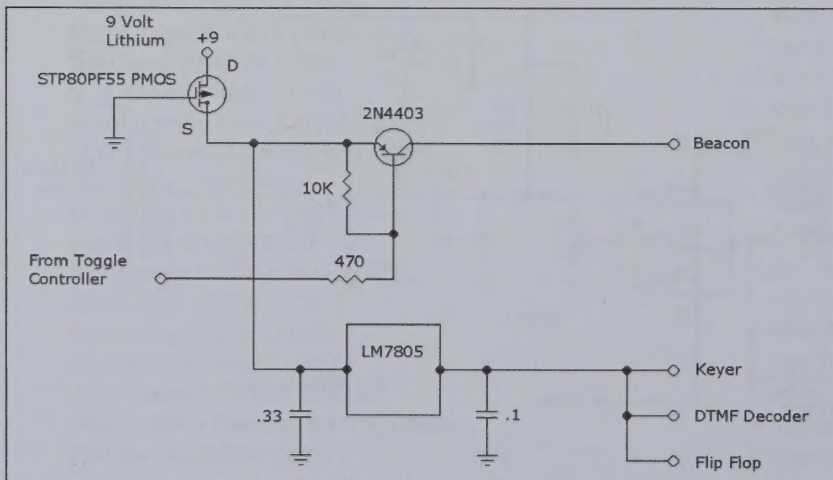
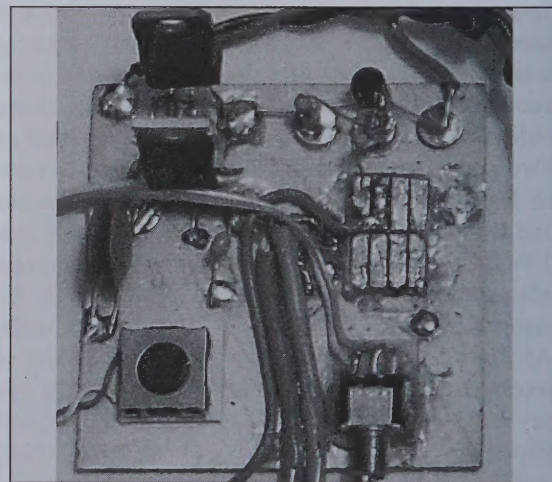

Figure 3—Power supply schematic.
Figure 4—Power supply board.
The power supply board (Figure 4) is uncomplicated but necessary. Figure 3 is the schematic. Notice the reverse voltage protection method. Using a MOSFET to provide reverse voltage protection isn't a new idea. A PMOS device is used here because I had one in the junkie box. An NMOS device could also have been used, provided it is connected backwards (source to +) in order to properly bias its internal diode for this application. The low on resistance of many MOSFETs yields a very low voltage drop, making it much preferred to the often used diode, IMHO, at about the same level of simplicity, albeit a little more expensive. In this case the drop is only a few millivolts compared to 0.2 or 0.5 volts across a Schottky or silicon diode. I first saw this idea used in a project by Paul Alexander, WB9IPA (SK). Paul was an excellent designer and fine ham and it's an honor to reference his work. In retrospect I think the PNP would have worked as well for the reverse voltage protection, but didn't think to try it.